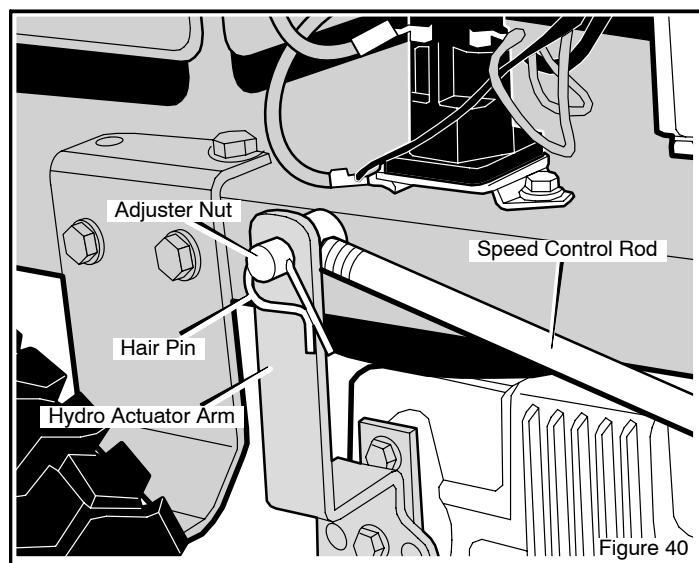

Figure 40
2. Remove the **hair pin** from the **adjuster nut** (see Figure 40).